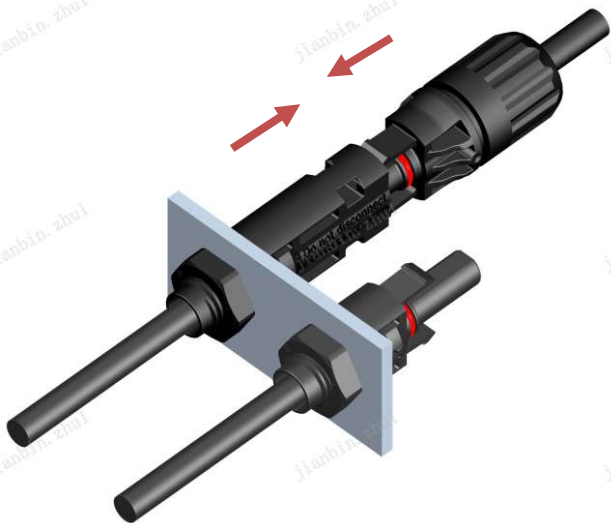
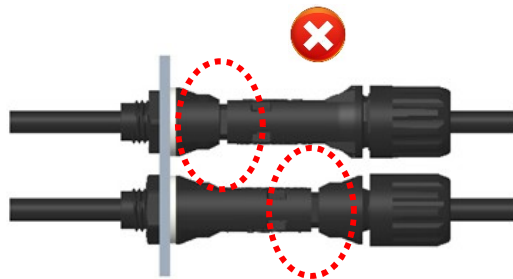

Figure 20
Figure 22
- ☆ 公母连接器插合：将公/母电缆连接器插入母/公面板连接器，直至其啮合。轻轻拉动，以检查是否啮合牢固（如图 20&21）。同时检查公母连接器有无对配不到位现象（如图 22）。
Insert the Male/ female cable connector into the female/ male panel connector until they engaged. And pull lightly to check correct engagement (Fig. 20&21). At the same time, check whether the male and female connectors are in place or not (Figure 22)